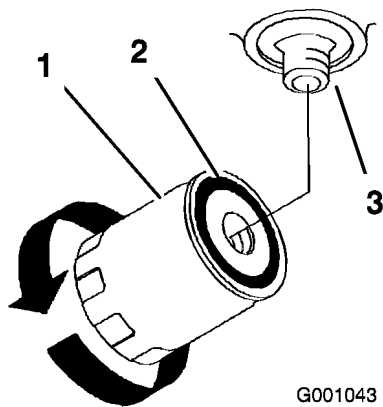

Figure 55
4. Locate filter under engine base and place drain pan under filter (Figure 55).
5. Remove the old filter and wipe the filter adapter gasket surface clean (Figure 55).
9. When the hydraulic filter is full, turn the oil filter clockwise until the rubber gasket contacts the filter adapter, then tighten the filter an additional 1/2 turn (Figure 55).